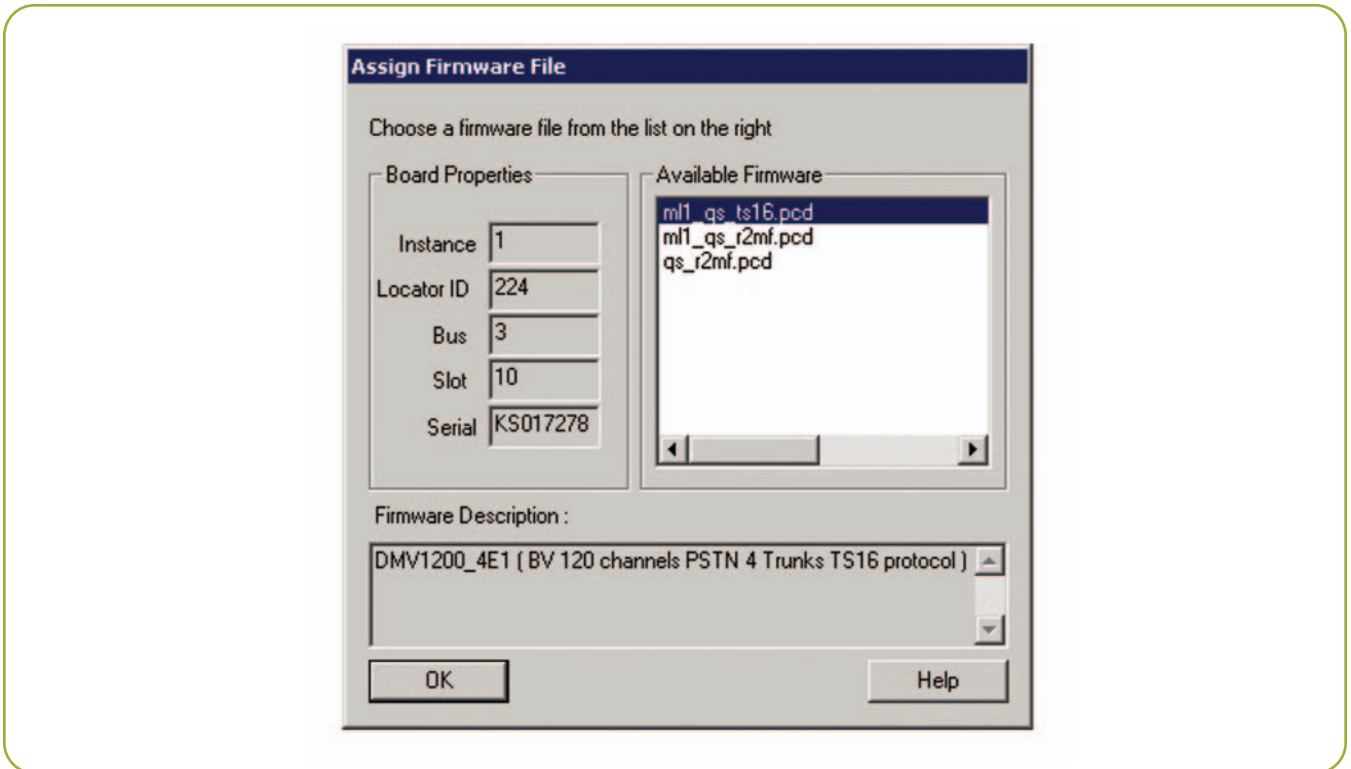

Figure 3. Selecting a Clear Channel Media Load
4. Select a clear channel media load (for example, ml1_qs_ts16.pcd for a regular DM/V1200-4E1), as shown in Figure 3.